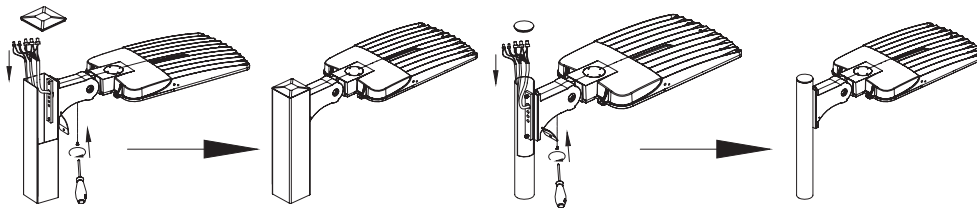

Figure 7.1
7.1. Push the connected wires inside of the pole, close the pole's top cover, then close the junction box cover by tightening the fixing screws, as Fig 7.1.